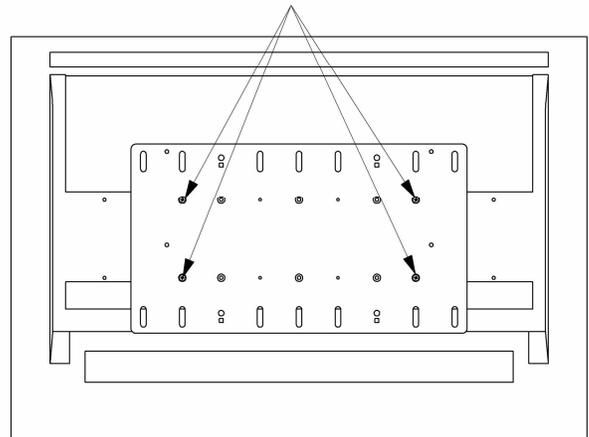

Figure 6. Display with 300mm x 100mm Hole Pattern
1. Select four flat head M4 screws (60) from Bag A and four spacers (130) from Bag C.
2. Attach the interface bracket (20) using the hole-pattern on the back of your display as shown in Figure 6.